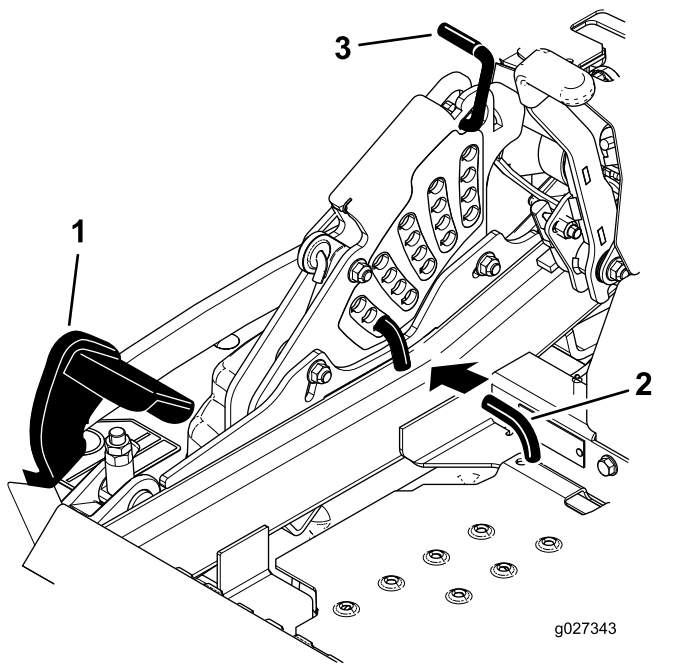

Figure 86
5. Push the deck-lift pedal all the way forward and the deck latches at the 14 cm (5 1/2 inches) TRANSPORT position (Figure 86).